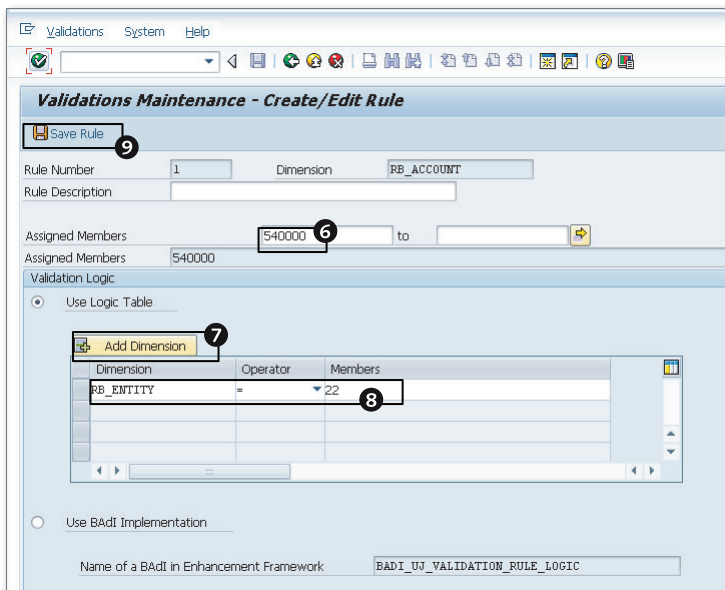

Figure 6.33 Creating a Validation Rule—Part D
- We will define validation for admin expense account 540000 and then allow administrative expenses to be posted only to the corporate entity (entity 22). Select 540000 as the member of the Account dimension (Figure 6.33, 6). Then click on ADD DIMENSION (Figure 6.33, 7). Enter the following values in the first row for the columns:
This defines the member value for the entity that can post values for this account. Entity 22 is the corporate office of Rich Bloom under which corporate administrative expenses are recorded (Figure 6.33, 9). Other entities should not be able to charge corporate admin expense amounts.
5. Click on **SAVE RULE**, and click on the back arrow to go back to the previous screen (Figure 6.33, 9).